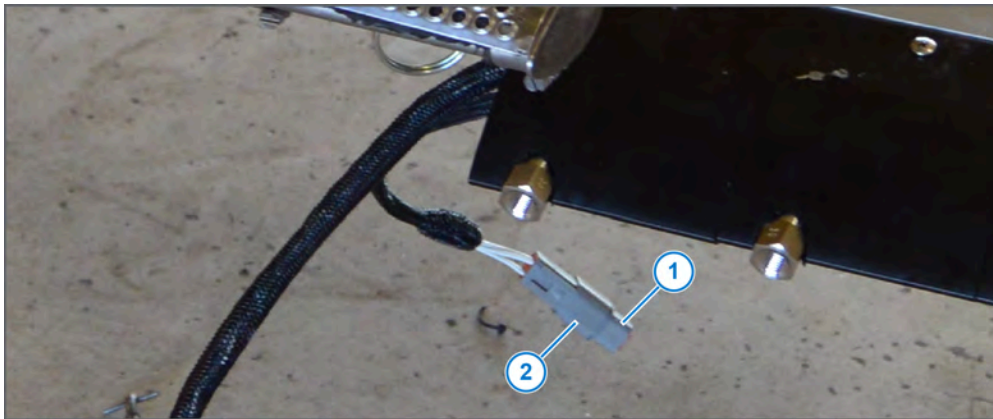

Figure 44: Dust Plug Installation
- a) Install the 6-pin DTM dust plug (Figure 44, Item 1) into the 6-pin DTM connector (Figure 44, Item 2) on the left and right center VCM harnesses.
See Figure 44
- b) Route the VCM harnesses (Figure 44, Item 3) back along the booms inside the shells.